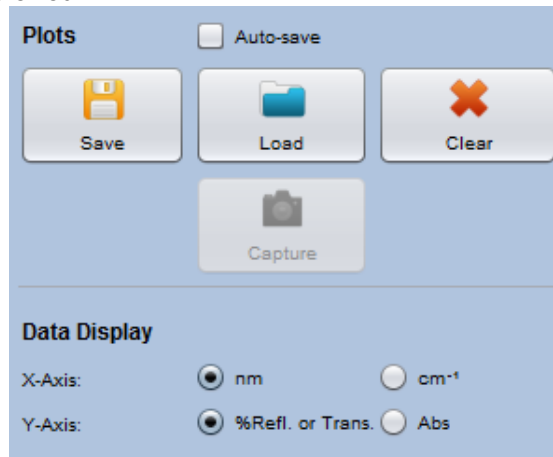

Figure 6.3: Save & Load plots and Adjusting axis' units on SpectroMOST
#### 4. Post-measurement actions: (see Figure 6.3)
5. **Post-measurement actions:** (see Figure 6.3)